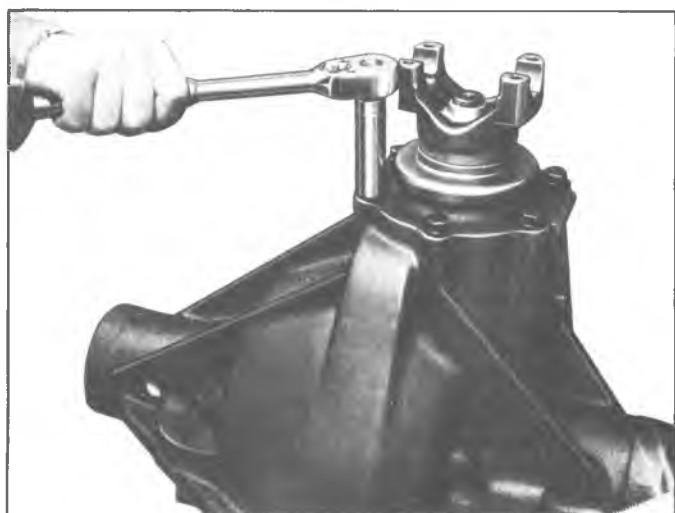

Fig. 7E—Removing Retainer Bolts
3. Remove the pinion bearing retainer bolts from the housing as shown in figure 7E.